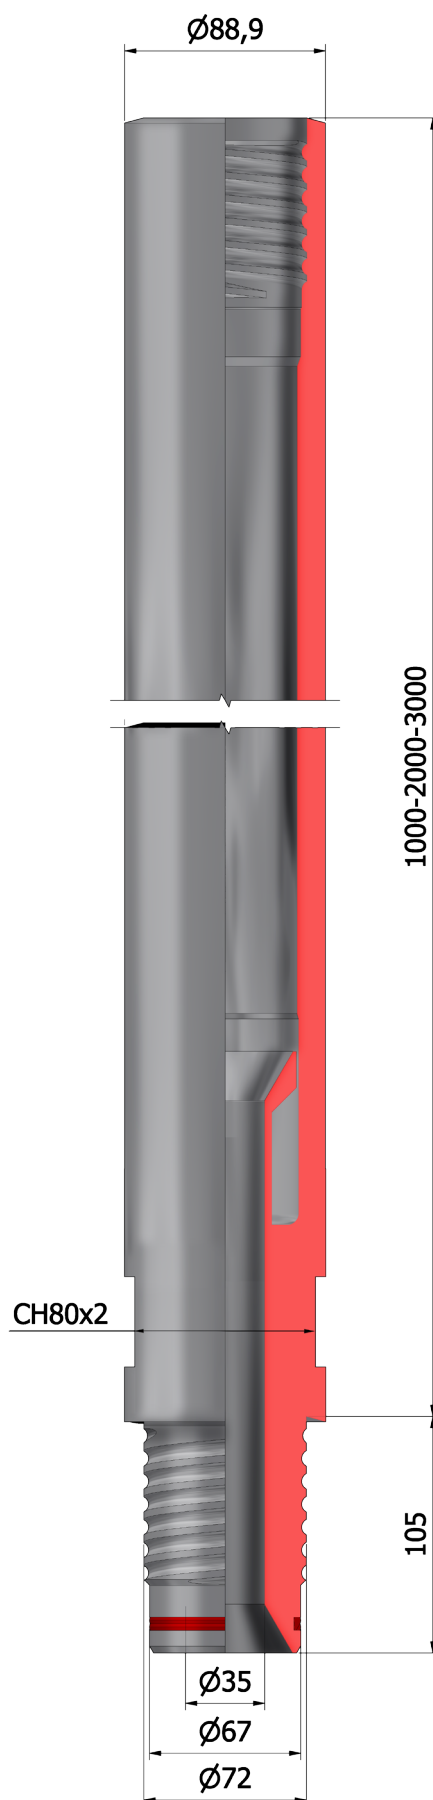

FIG. 3.4
D.90 JET RP ROD (REF. FIG. 3.4)